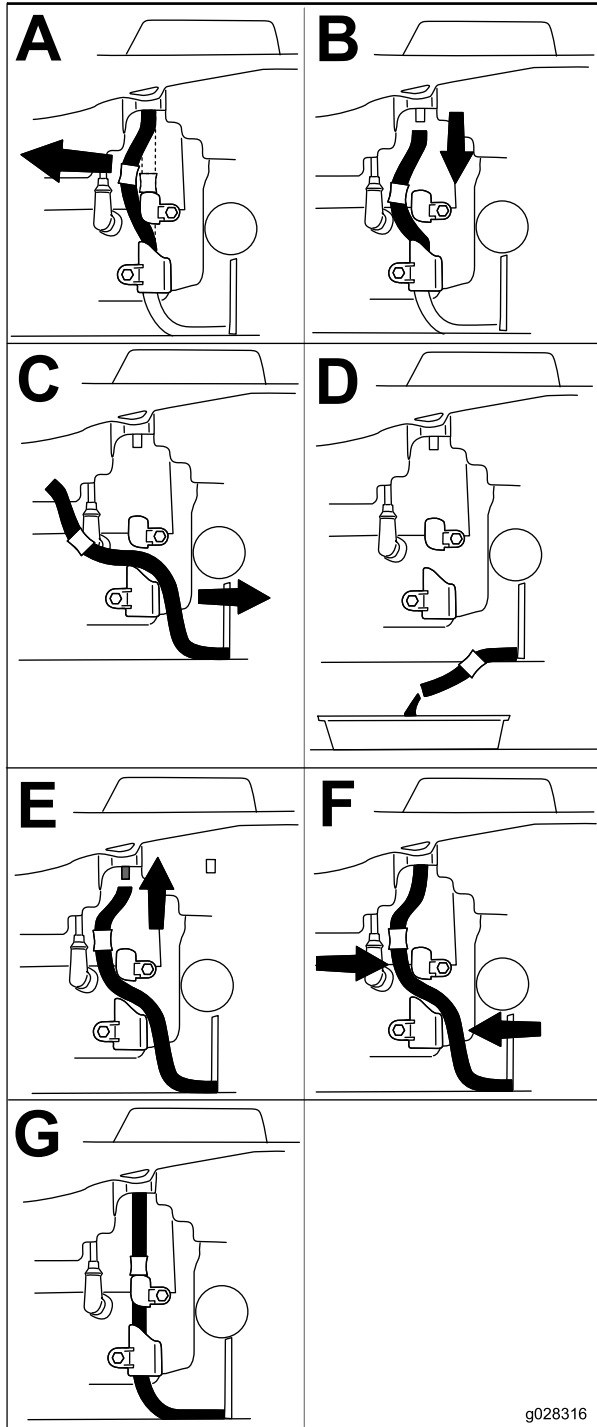

Figure 32
4. Drain the engine oil from the engine (Figure 32).